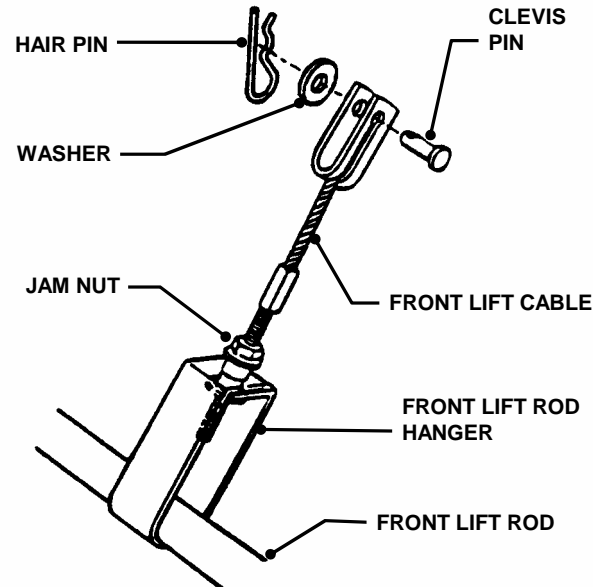

FIGURE 4.4
8. Remove hair pin and washer securing front lift cable to front lift arm. See Figure 4.4.
10. Loosen jam nut on front lift cable. See Figure 4.4.